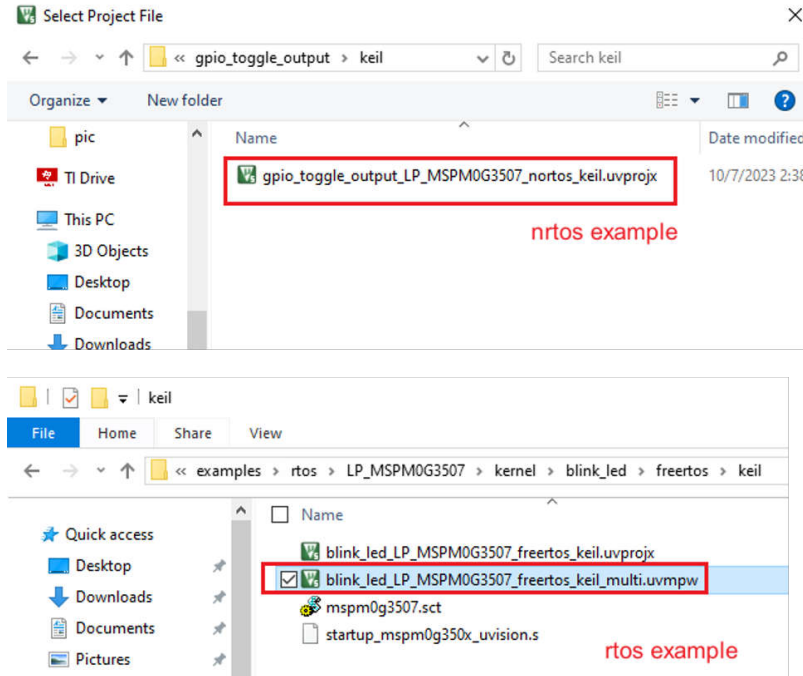

Figure 3-44. Select Keil Project
2. Select a demo project from SDK. For the nortos example, use the .uvprojx project file. For the RTOS example, use .the uvmpw work space file. An example is shown in Figure 3-44.